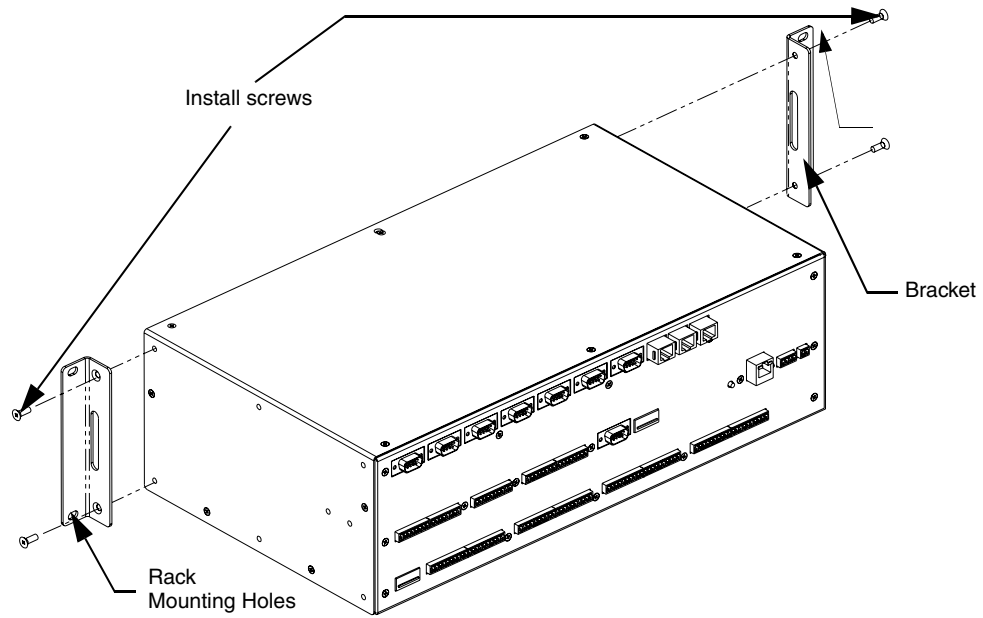

FIG. 19 Mounting Integrated Controller into an equipment rack
2. Position and install the mounting brackets, as shown in FIG. 19, using the screws supplied with the unit. The mounting brackets can be rotated to accommodate your mounting needs.
5. Slide the unit into the rack until the attachment holes, along both sides, align to their corresponding locations on the mounting brackets, as shown in FIG. 19.